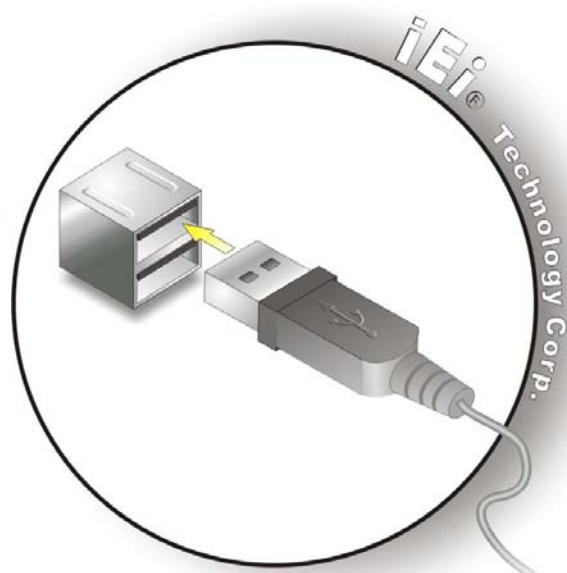

Figure 3-12: USB Device Connection
Step 2: Align the connectors. Align the USB device connector with one of the connectors on the uIBX-230-BT. See Figure 3-12.